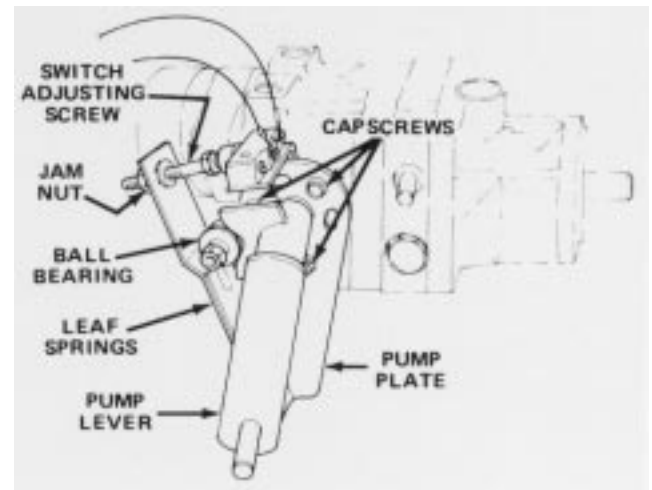

Figure 43
1. Park vehicle on a level surface and turn engine off. Apply the parking brake, tip seat forward, and actuate pump lever (Fig. 43) to insure assembly is properly seated and operating freely. Correct any discrepancy.
6. Because the wheel is rotating, the pump plate must be adjusted. But before adjusting the pump plate, move throttle to SLOW. If wheel is rotating forward, loosen capscrews, and lightly tap bottom of pump plate counterclockwise (Fig. 43). By contrast, tap pump plate clockwise if wheel is rotating backward (Fig. 43). When wheel stops rotating, tighten capscrews holding pump plate against side of transmission. Verify the adjustment with throttle in SLOW and FAST position.
- A. Ball bearing is loose or worn out (Fig. 43).
- F. Weak or damaged leaf springs (Fig. 43). Replace.
- 2. Actuate the pump lever (Fig. 43) to insure all parts are operating freely and seated properly.
- 3. Loosen jam nut. Rotate switch adjusting screw (Fig. 43) until there is a gap between head of screw and switch button.